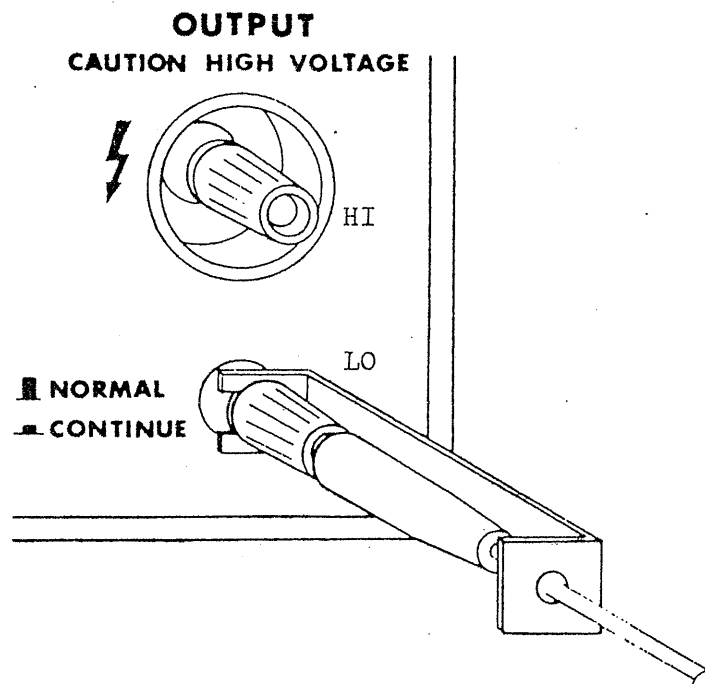

Figure 3.3
- (1) The connection method of the test cable of the 10 voltage line is shown in Figure 3.3. Be sure to check this cable against open-circuiting each time the instrument is used.